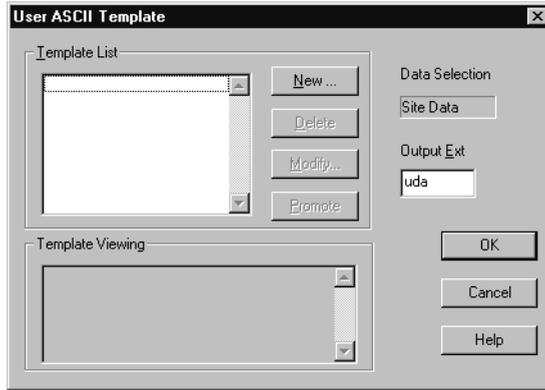

Figure 8.2. User ASCII Template Dialog Box
3. Click **Customize** to open the **User ASCII Template** dialog box, Figure 8.2.